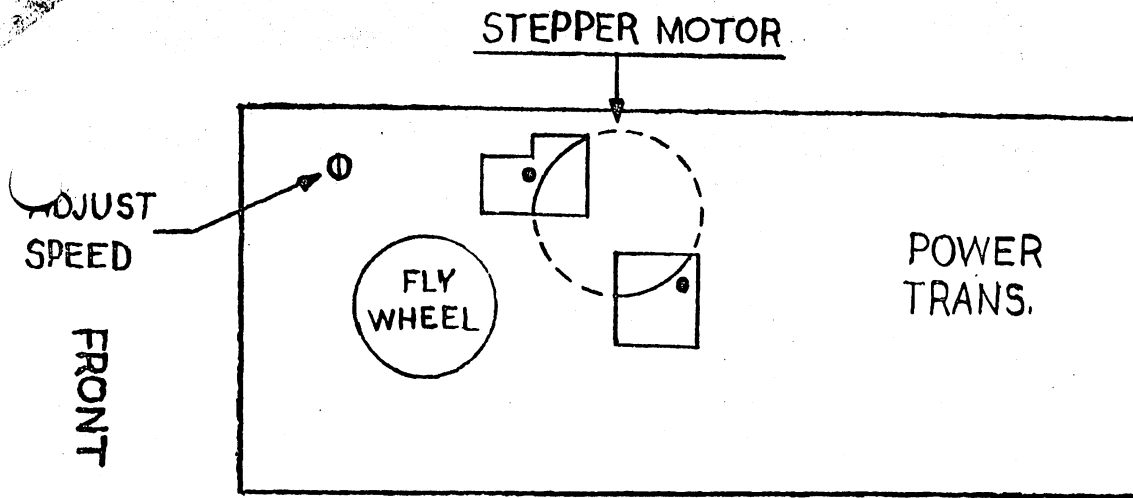

FIG. 1 BOTTOM VIEW
- b). Locate the speed adjusting screw. You can find this by looking through the small hole at the front, upper corner of the drive (see figure 1 OR 5). If you have one of the newer drives the screw will be located on the top of the drive near the front (see figure 5).
- c). Next find the stepper motor mounting screws (see figure 1). Loosen these screws so that the stepper motor will just turn freely. Don't over loosen the screws. Remove all the adhesive from the screws.
- c). Next find the stepper motor mounting screws (see figure 1). Loosen these screws so that the stepper motor will just turn freely. Don't over loosen the screws.